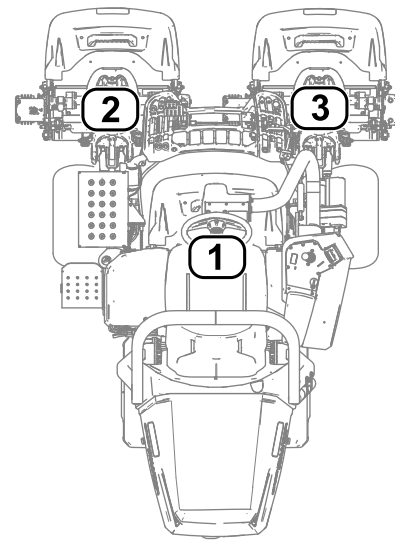

Figure 25
- **1** refers to the center cutting unit (Figure 25)
- **2** refers to the front left cutting unit (Figure 25)
- **3** refers to the front right cutting unit (Figure 25)